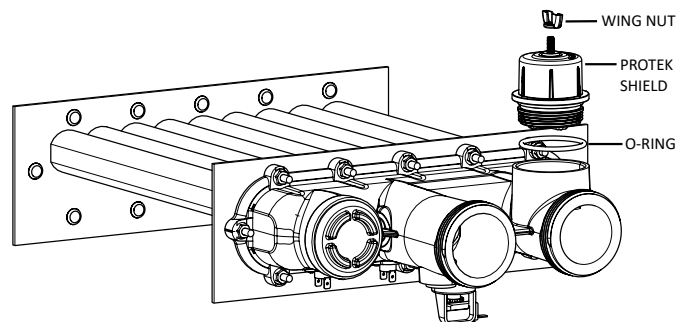
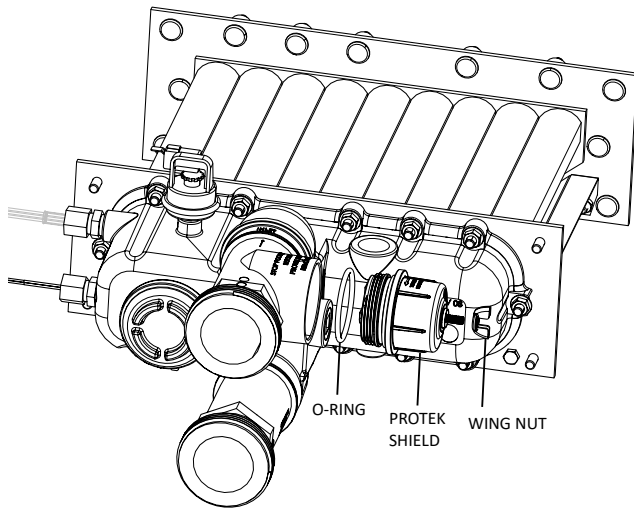

Figure 5. Atmospheric Model Header Install
Figure 6. AVIA Model Header Install
12. Place the O-ring over the threaded portion of the ProTek cap (see **Figure 5 and Figure 6**).